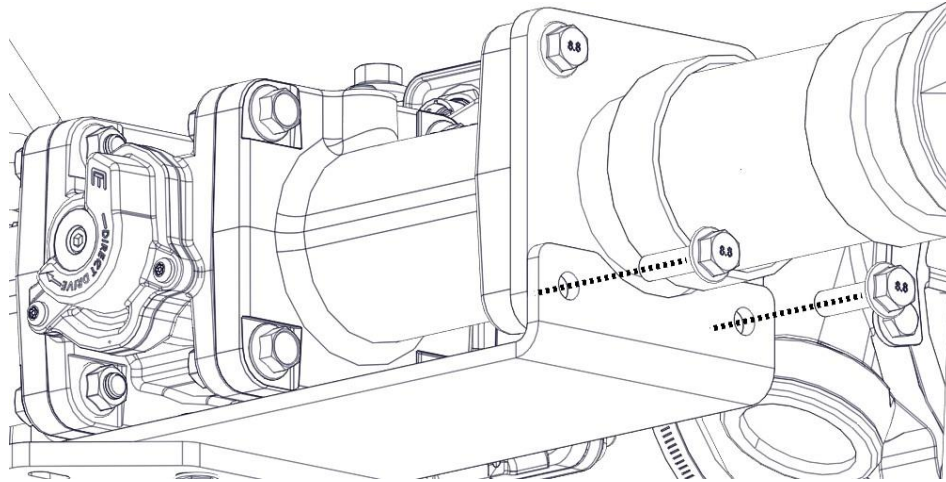

Figure 32.
2. Remove the two bolts (Figure 32) from the bottom of the cross-fitting bracket.
3. Insert and hand tighten the two bolts (Figure 32) from the bottom of the cross-fitting bracket.
6. Torque the two bolts (Figure 32) from the bottom of the cross-fitting bracket 12 ft/lb.